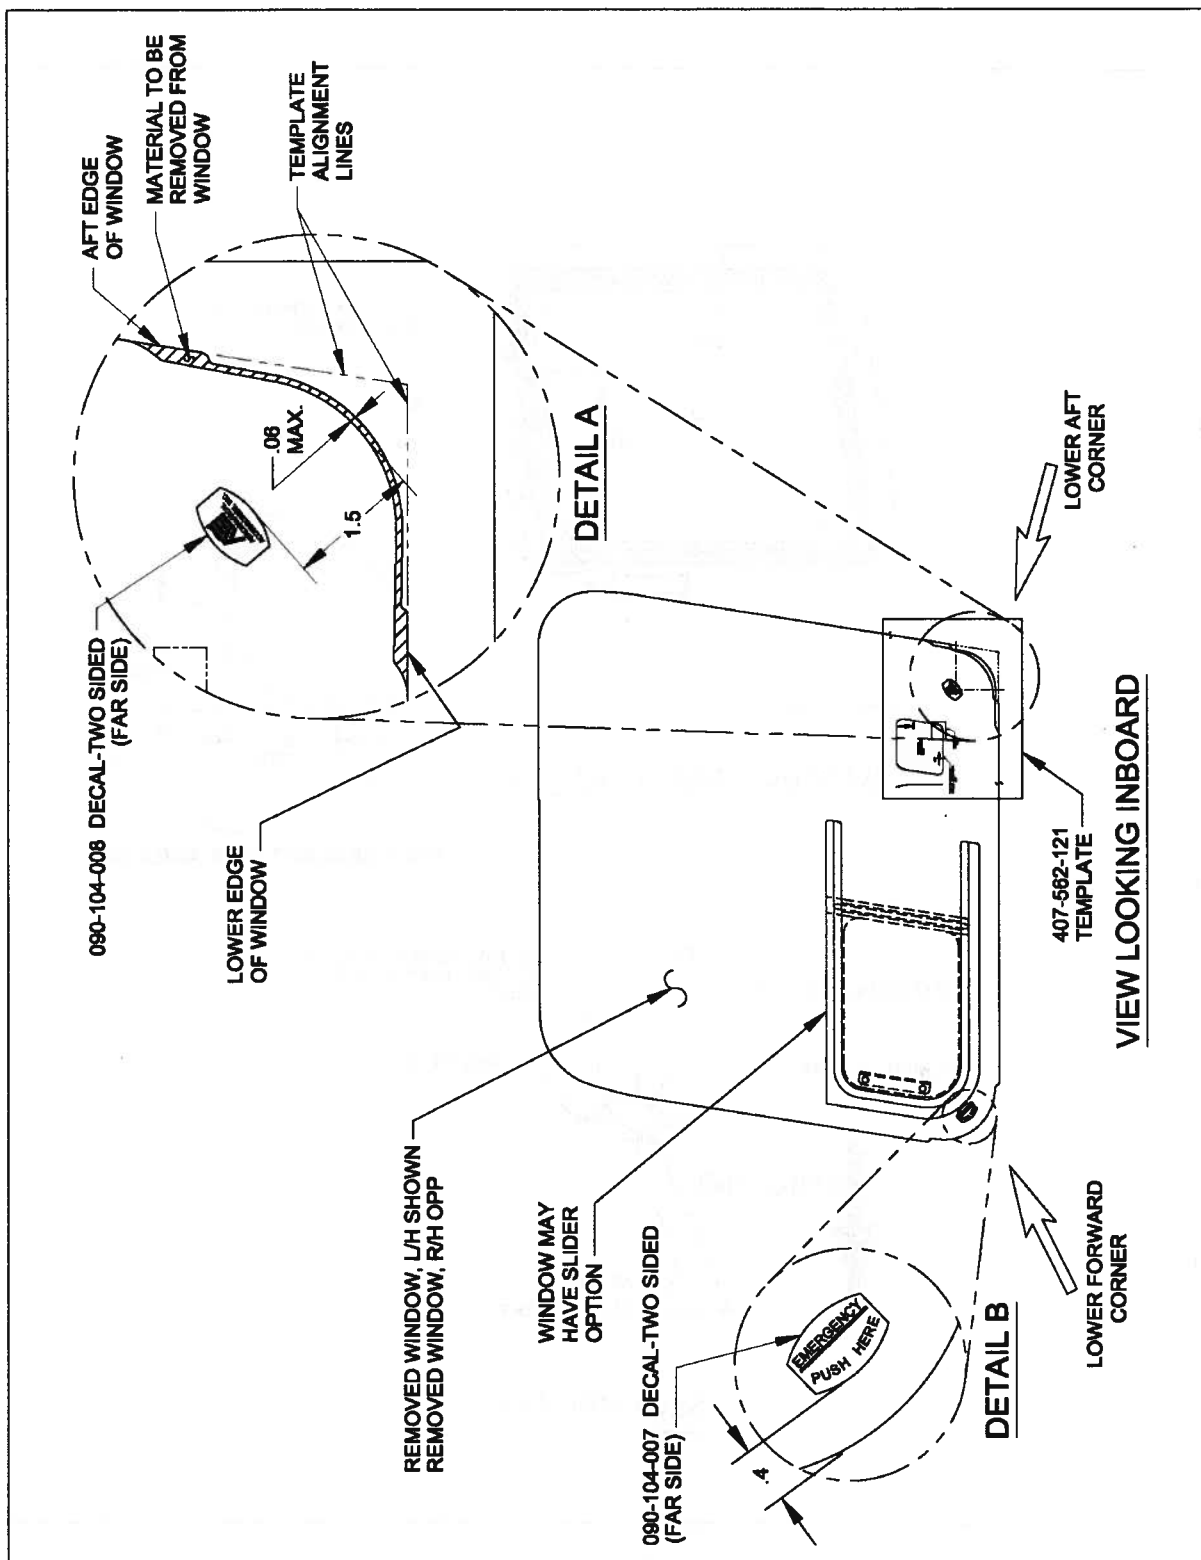

FIGURE 4 – WINDOW MODIFICATION
Refer to Figures 4, 5 and 6.
1. Carefully lay the window on a horizontal work area that will not scratch or damage the surface. Orient the Template (407-562-121) in the lower aft corner of the window by aligning the alignment lines on the template with the aft and lower edges of the window, as shown in Figure 4 – Detail A.
Verify the amount of window material that extends past the radial portion of the template radius does not exceed .06 inches (ref. Figure 4 – Detail A).
2. Apply Decal – Two Sided (090-104-007) to the forward lower, inside corner of window as shown in Figure 4– Detail B. Apply Decal – Two Sided (090-104-008) to the aft lower, inside corner of window as shown in Figure 4 – Detail A.